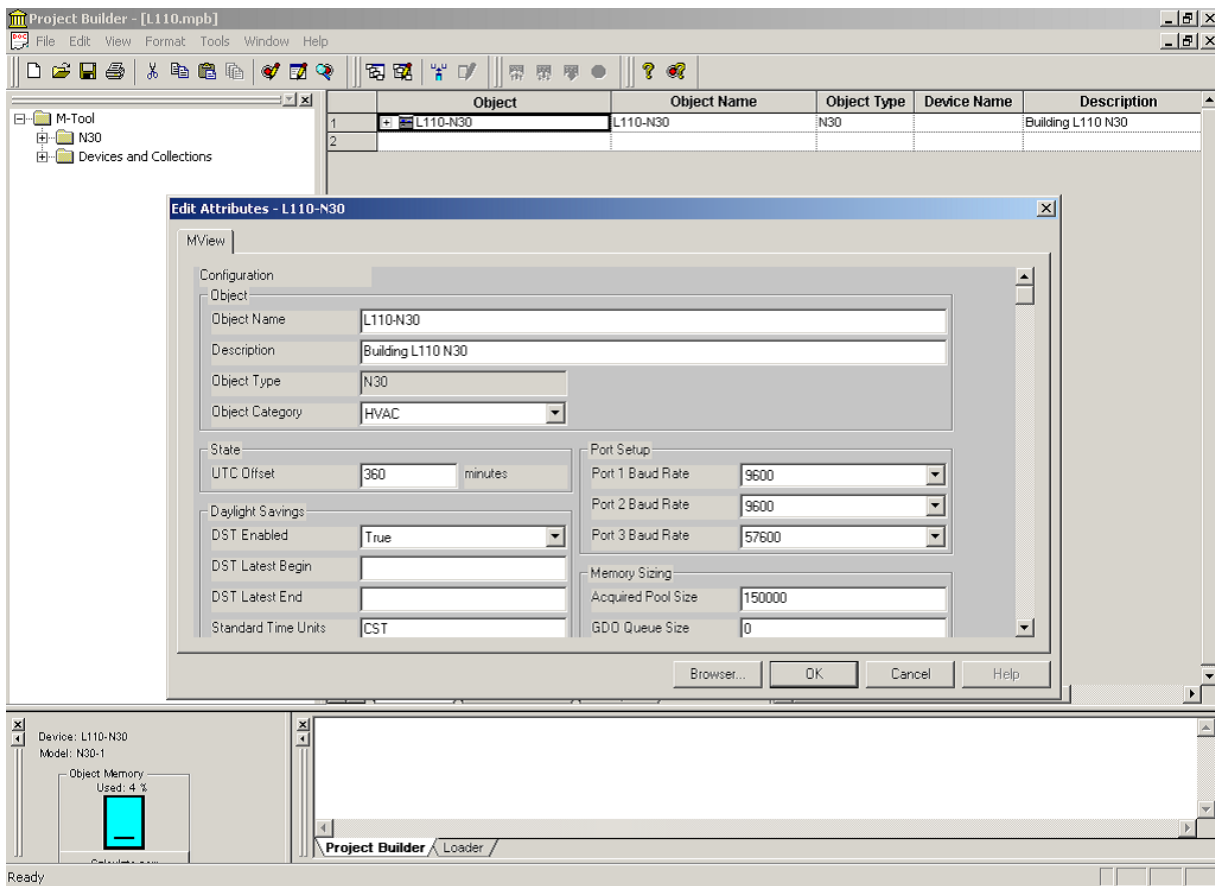

Figure 22: Project Builder - Edit Attributes
2. Open Project Builder and enter the N30 information in the Edit Attributes screen (Figure 22).